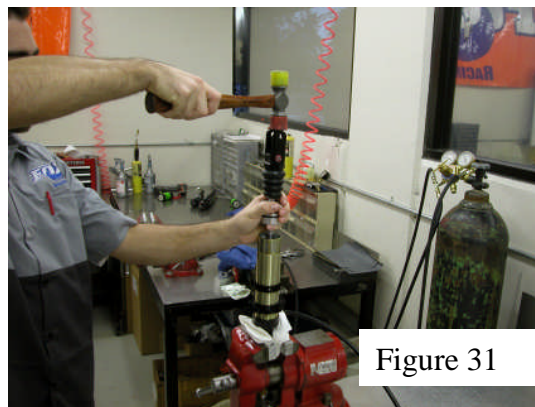

Figure 31
48. Hold the shaft assembly as straight as possible and hit the shaft eyelet a couple of times, squarely from above, with a rubber mallet. **(Figure 31)** This is done to momentarily open the shim stack and allow any trapped air to escape. You should see small bubbles rise to the surface. Fill body tube with oil until oil level is flush with edge of body tube. Slowly pull the shaft out until rebound ports are just below the oil surface. If you pull the shaft out too far you will hear a sucking noise when air is pulled in. If this happens, you will have to start the bleeding process over. Add oil as necessary.